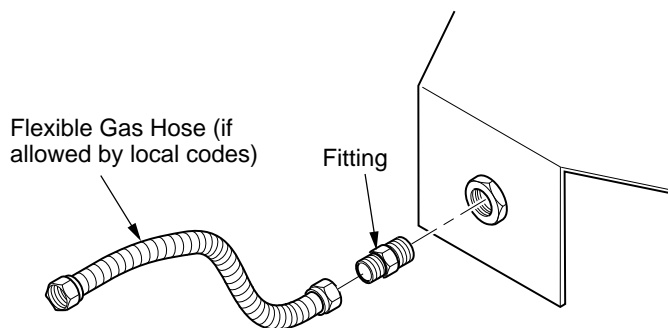

Figure 11 - Attaching Flexible Gas Hose to Heater
1. Connect fitting to base as shown in Figure 11. Connect approved flexible gas hose to fitting in base (see Figure 11).